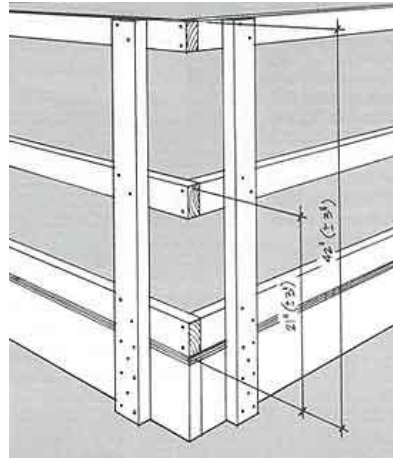

Figure 19. This drawing shows the correct height for guardrails and midrails - about 42 and 21 inches high respectively.
- Construct guardrails with a top rail approximately 42 inches high with a midrail about half that high at 21 inches (Figure 19).